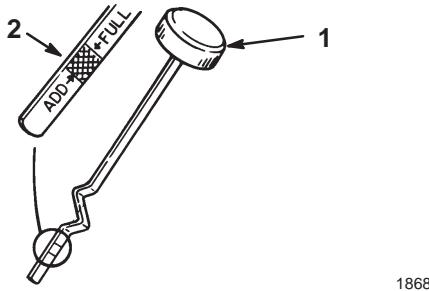

Figure 16
4. Unscrew the oil dipstick and wipe the metal end clean (Fig. 16).
7. Slowly pour approximately 80% of the specified amount of oil into the fill hole (Fig. 16). Check the oil level; refer to Checking the Oil Level, page 21, steps 4-5.
5. Slowly pour approximately 80% of the specified amount of oil into the fill hole (Fig. 16). Check the oil level; refer to Checking the Oil Level, page 21, steps 4 and 5.